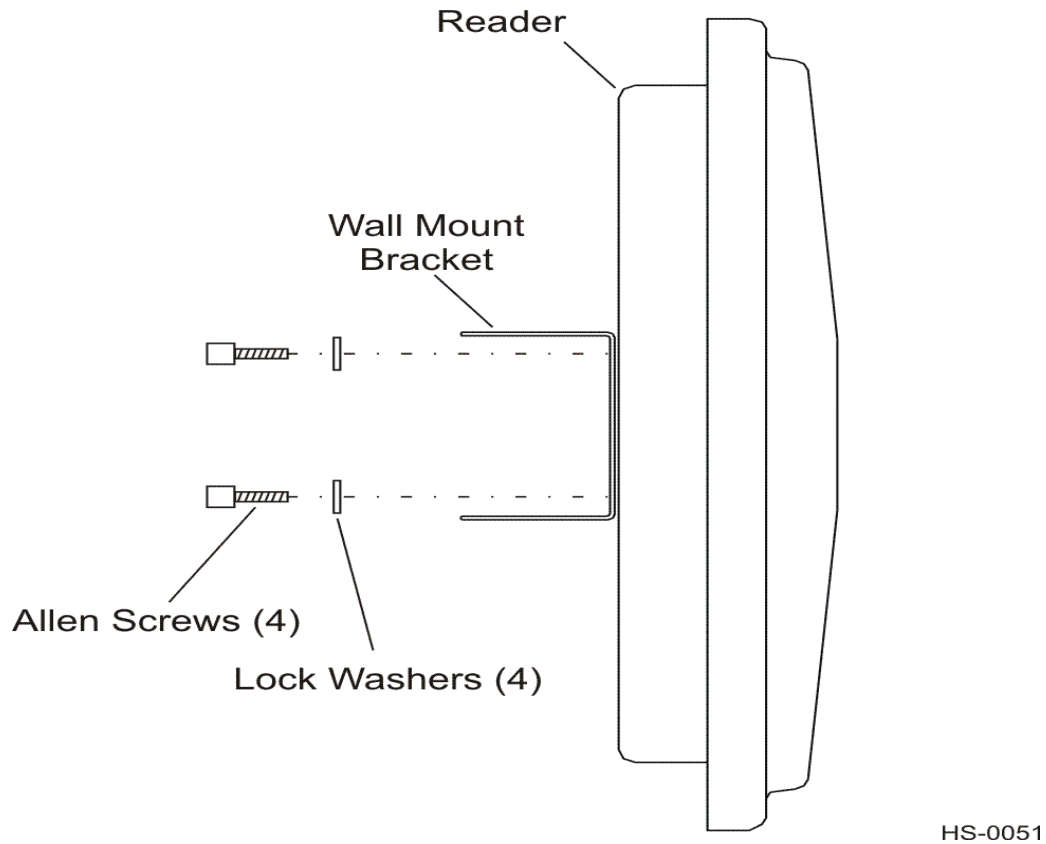

Figure 33 Wall Mount Bracket Attached to the Encompass 4H Reader
4. Using the Allen screws and lock washers set aside in Step 2, attach the wall-mount bracket to the back of the Encompass 4H Reader, as shown in Figure 33. Tighten the screws to secure the bracket.